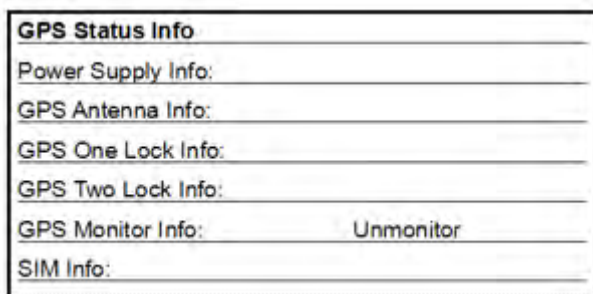

Figure 20
- 3) Press  to enter the **GPS status information** page (figure 20).